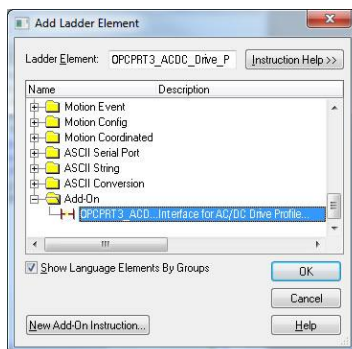

Figure 50: Add AC/DC Drive Profile Add-On Instruction
- 8) Select the AC/DC drive profile add-on instruction in the Add-On folder. Refer to Figure 50.